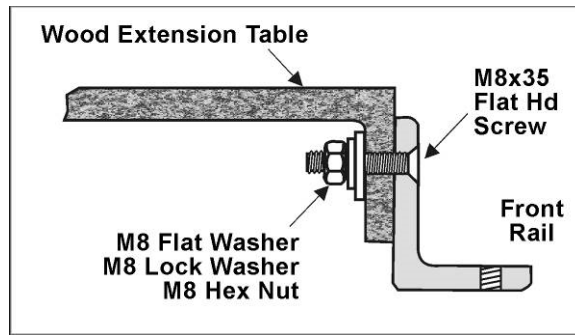

Figure 9
7. Install M8 x 35 socket flat head screws through front rail and secure each with flat washer, lock washer, and hex nut behind lip of wood table (Figure 9). *Finger tighten only.*